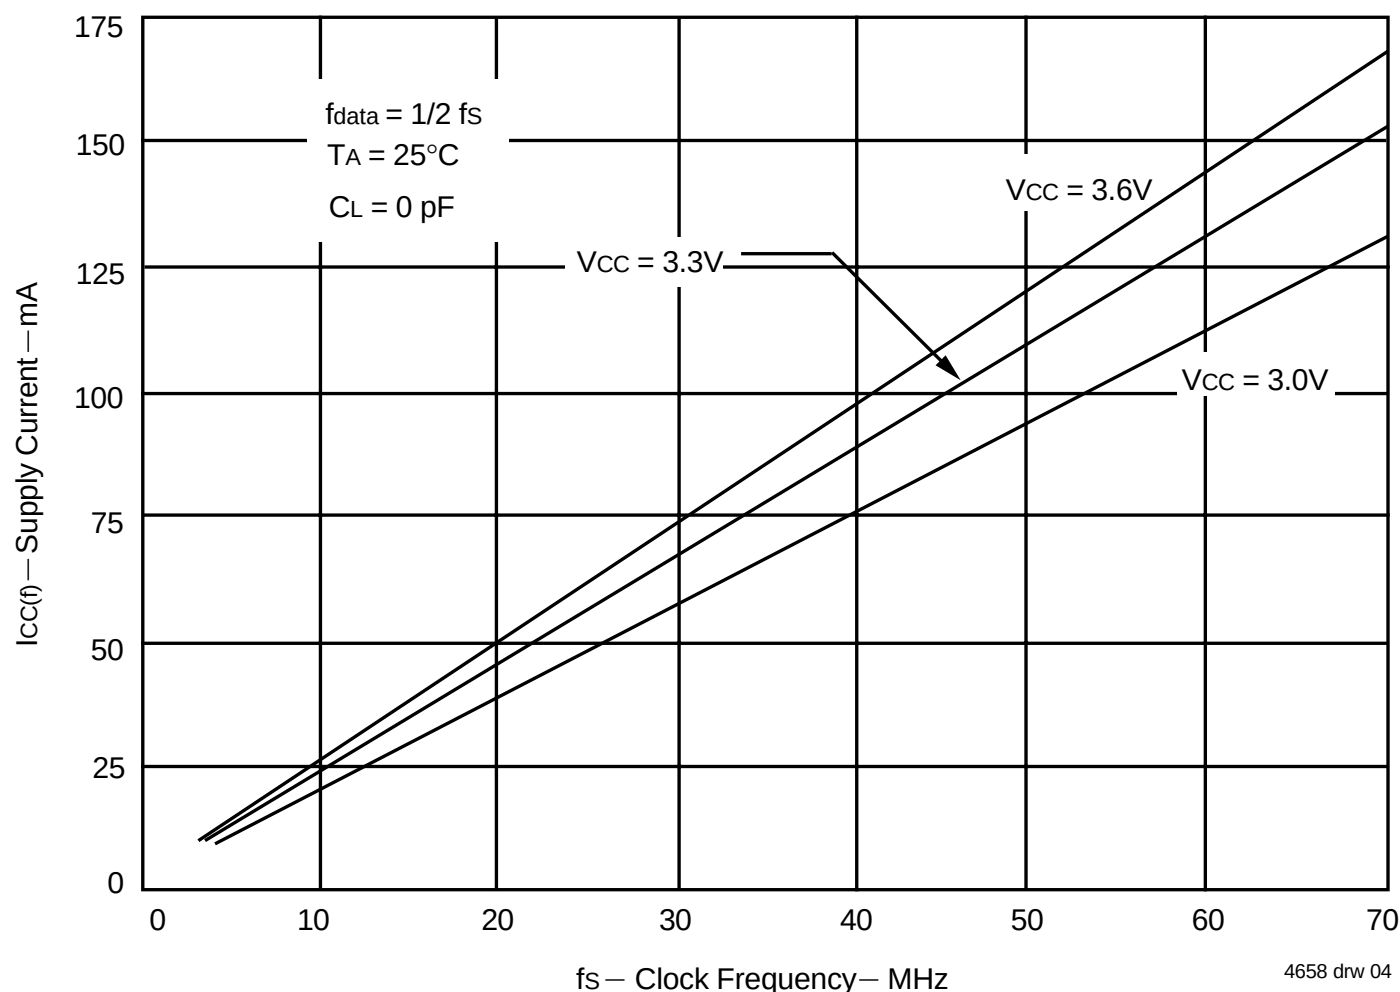

Figure 1. Typical Characteristics: Supply Current (I_{CC}) vs. Clock Frequency (f_s)
- For additional I_{CC} information, see Figure 1, *Typical Characteristics: Supply Current (I_{CC}) vs. Clock Frequency (f_s)*.
The $I_{CC}(f)$ current for the graph in Figure 1 was taken while simultaneously reading and writing the FIFO on the IDT72V3641 with CLKA and CLKB set to f_s . All data inputs and data outputs change state during each clock cycle to consume the highest supply current. Data outputs were disconnected to normalize the graph to a zero-capacitance load. Once the capacitance load per data-output channel and the number of IDT72V3631/72V3641/72V3651 inputs driven by TTL HIGH levels are known, the power dissipation can be calculated with the equation below.
With $I_{CC}(f)$ taken from Figure 1, the maximum power dissipation (PT) of these FIFOs may be calculated by: